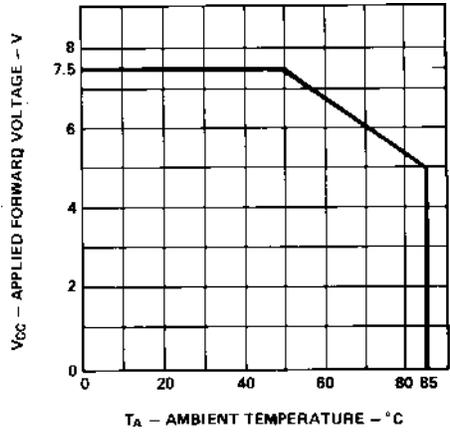

Figure 3. Maximum Allowed Applied Forward Voltage vs. Ambient Temperature  $R\theta_{JA} = 175^{\circ}\text{C}/\text{W}$ . 5 Volt Devices.
2. Derate from TA = 50°C at 0.071 V/°C, see Figure 3.